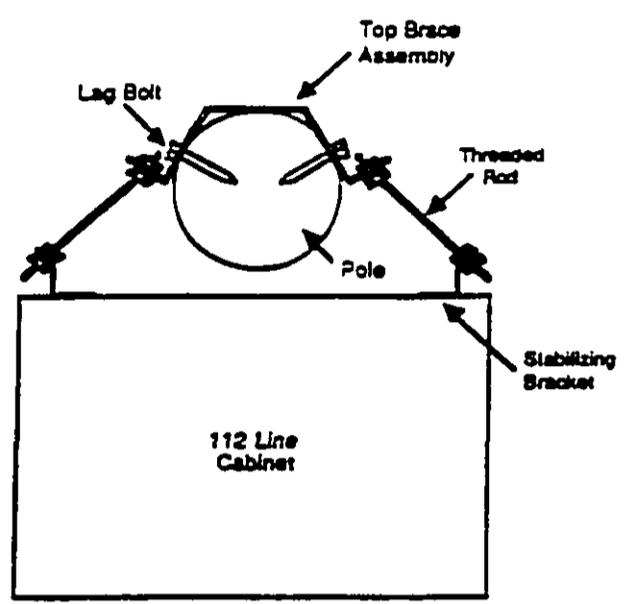

**Fig. 2-9**
- 4 When using slings, secure the lifting cables to the recesses at the bottom of the cabinet (see Fig. 2-9). Attach a hoist to the center of the cable. Use rope lines around the bottom to guide the cabinet onto the pad or pole-mount platform.